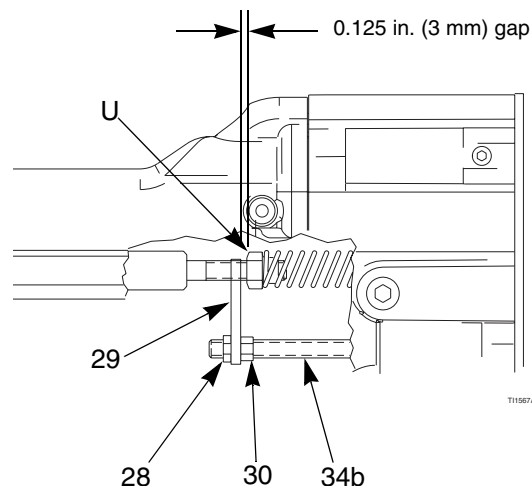

Fig. 32. Actuator Arm Adjustment
2. Position the parts so there is a 0.125 in. (3 mm) gap between the actuator arm (29) and the fluid packing rod nut (U), which allows the atomizing air to actuate before the fluid. See FIG. 32..
3. Tighten the adjustment nut (30) against the actuator arm (29). Check that the 0.125 in. (3 mm) gap has been maintained. See FIG. 32..
5. Install the gun shroud (2) and air cap, page 37.